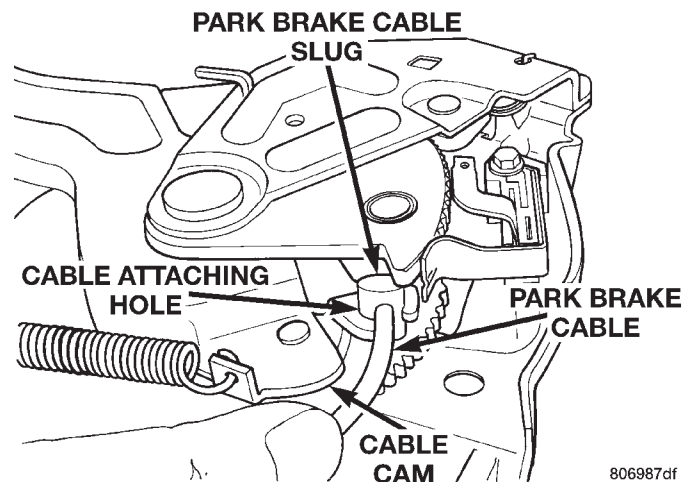

Fig. 114 Park Brake Cable Removal
(13) Rotate park brake cable, aligning cable with notch in cable attaching hole (Fig. 114). Then remove park brake cable from park brake pedal assembly.
(1) Install park brake cable assembly, through hole in park brake pedal assembly.
(2) Install park brake cable in attaching hole on park brake assembly (Fig. 114). Install park brake cable into cable attaching hole in park brake assembly, and rotate cable into place. Be sure cable is properly seated in the cam surface track of foot lever assembly (Fig. 114).